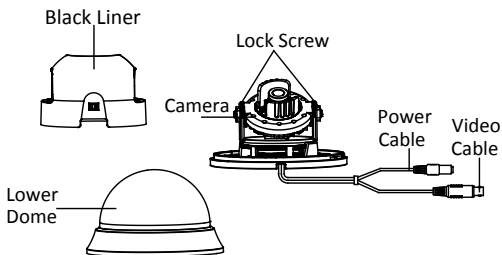

Figure 1-1 Overview of HD40H(X) Camera
- 2). Loosen the locking screws beside the lens (see Figure 1-1).